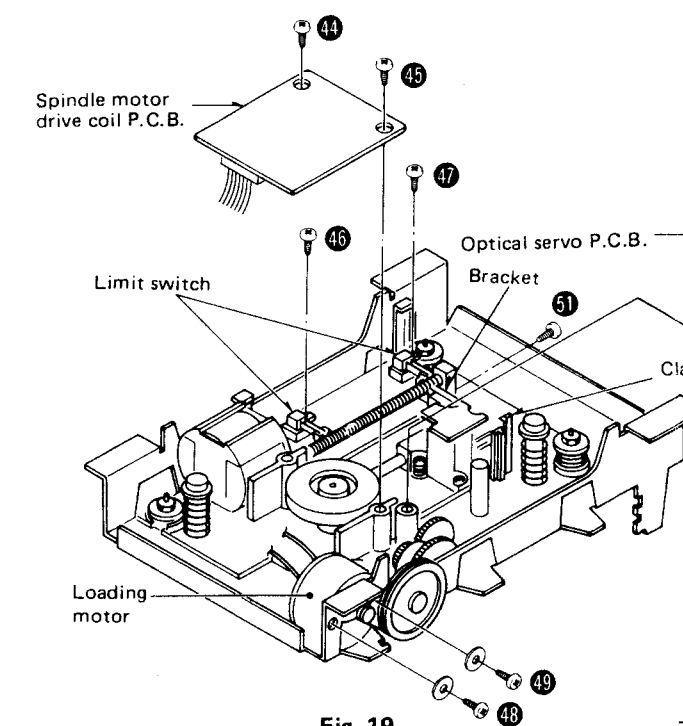

Fig. 19
2. Turn over the traverse unit and remove the optical servo P.C.B. setscrew [Fig. 19 : 43].
4. Remove the 2 setscrews [Fig. 19 : 44, 45] of spindle motor drive coil P.C.B.
2. Remove the 2 setscrews [Fig. 19 : 46, 47] of limit switch, and unsolder the limit switch.
3. Remove the 2 setscrews [Fig. 19 : 48, 49] of loading motor, and unsolder the motor leads.
4. Remove the bracket setscrew [Fig. 19 : 51] of pickup to remove the bracket.